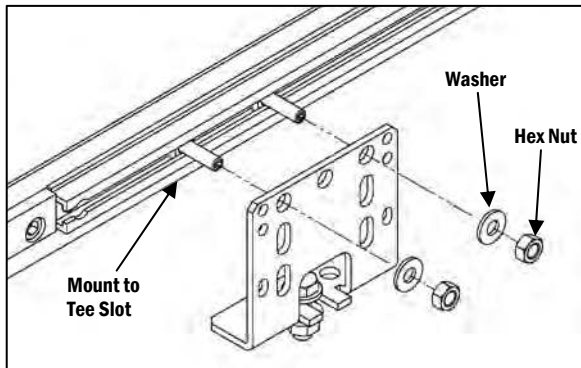

Figure 2
a. For the Tee Slot Mounted version (**Figure 2**), insert the 1/4-20 Square Nuts in the tee slot, and thread the 1/4-20 x 1" Set Screws into the Square Nuts.
③ Install the Mount to a Steel Stand